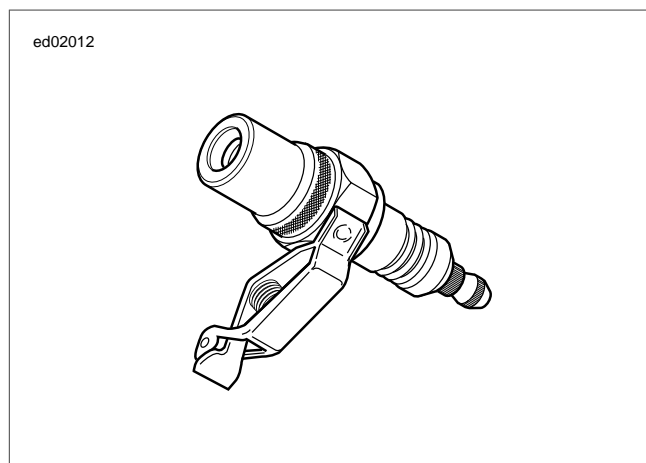

Figure 4-13. Spark Tester
- b. See Figure 4-13. Attach cable to SPARK TESTER (Part No. HD-26792). Clip tester to cylinder head bolt.